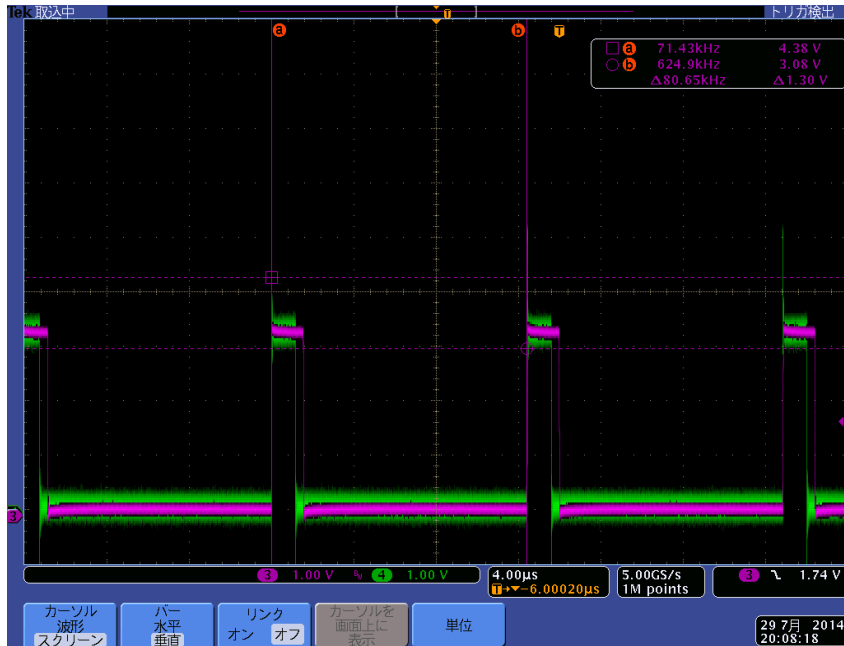

Figure-5 Expected behavior
- In above situation, the TX output from i.MX6S should be as Figure-5.